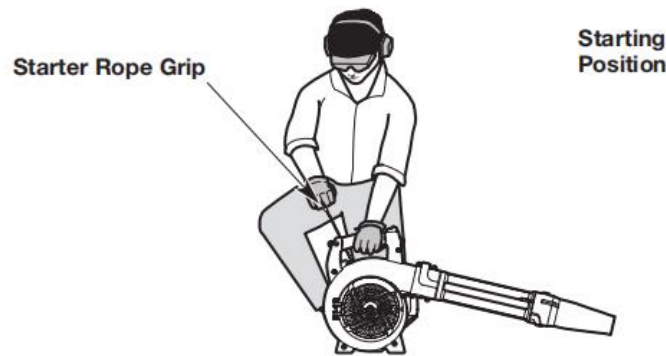

Fig. 7
Avoid accidentally starting the unit. To avoid serious injury, the operator and the unit must be in a stable position when pulling the starter rope (Fig. 7).
- f) DO NOT squeeze the throttle control. Crouch in the starting position (Fig. 7).
- g) DO NOT squeeze the throttle control. Pull the starter rope with a controlled and steady motion 3 to 5 times to start the engine (Fig. 7).